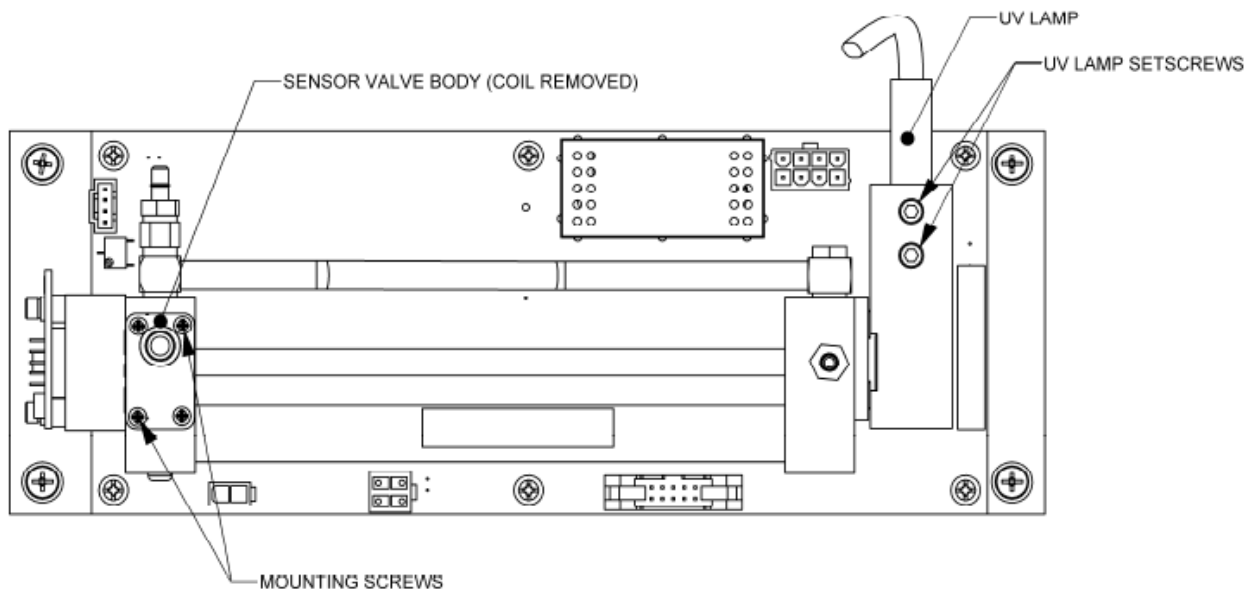

Figure 9-3: Sensor Detail
7. Remove the two (2) mounting screws using a #2 Phillips screwdriver. See Figure 9-3.
10. Install the new valve by reversing steps 1-7. Note the proper orientation of the new valve as shown in Figure 9-3.